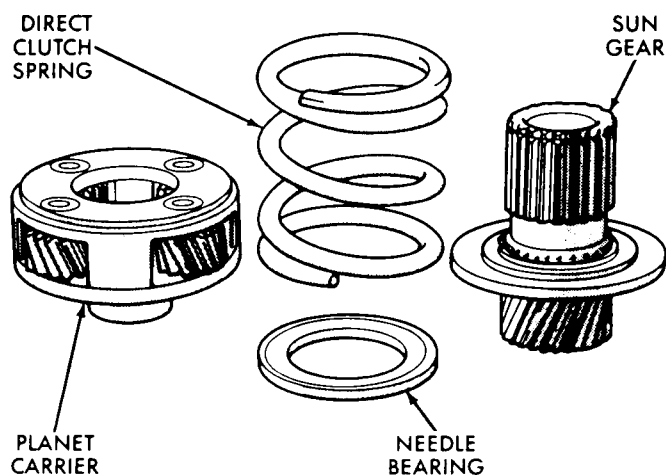

Fig. 5—Planet Carrier and Sun Gear
(4) Remove direct clutch spring, sun gear, needle bearing, and planet carrier (Fig. 5).